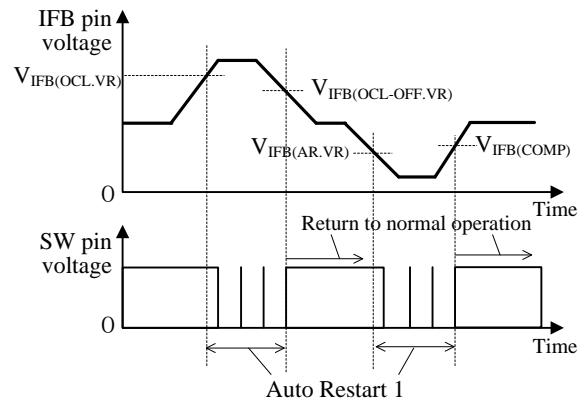
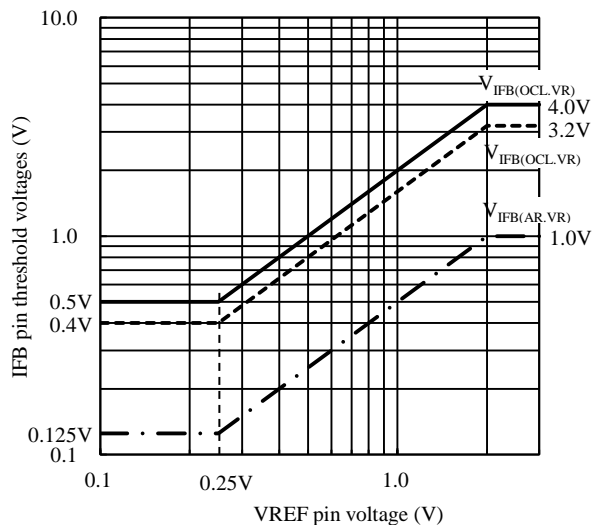
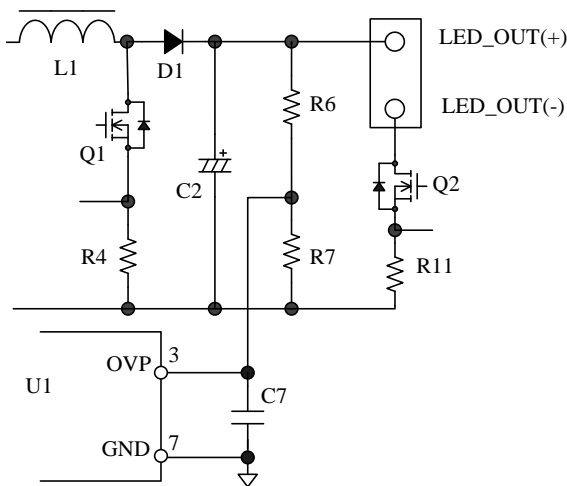

Figure 8-14 IFB pin threshold voltage and Auto Restart 1 operation
Figure 8-15 VREF pin voltage versus IFB pin threshold voltages
Figure 8-19 OVP pin peripheral circuit
- Operation by the detection signal of IFB pin: As shown in Figure 8-14, IFB pin has two types of threshold voltage. These threshold voltages depend on the VREF pin voltage, as shown in Figure 8-15.
When the FB pin voltage increase to  $V_{IFB(OCL.VR)}$  in Figure 8-15, or more, the operation of the IC switches to Auto Restart 1. When the fault condition is removed and the IFB pin voltage decreases to  $V_{IFB(OCL-OFF.VR)}$  in Figure 8-15, or less, the IC returns to normal operation automatically.
When the FB pin voltage decrease to  $V_{IFB(AR.VR)}$  in Figure 8-15, or more, the operation of the IC switches to Auto Restart 1. When the fault condition is removed and the IFB pin voltage increases to above  $V_{IFB(COMP)}$ , the IC returns to normal operation automatically.
- (2) When IFB pin voltage becomes  $V_{IFB(OCL.VR)}$  or more (see Figure 8-15), the IC switches to Auto Restart 1.
- (3) The LED current increases further and when the IFB pin voltage increases to the IFB Pin Overcurrent Protection High Threshold Voltage,  $V_{IFB(OCH)} = 4.0\text{ V}$  or more, the IC switches to Auto Restart 2.
Figure 8-19 shows OVP pin peripheral circuit. The OVP pin detects the divided LED output voltage by R6 and R7. When the LED\_OUT (+) or the IFB pin is open and the OVP pin voltage increases to the OVP Pin Overvoltage Protection Threshold Voltage,  $V_{OVP} = 3.00\text{ V}$ , the IC immediately stops switching operation. When the OVP pin voltage decreases to the OVP Pin Overvoltage Protection Release Threshold Voltage,  $V_{OVP(OFF)} = 2.75\text{ V}$  or the IFB pin voltage decreases to  $V_{IFB(AR,VR)}$  in Figure 8-15, then the IC switches to Auto Restart 1.
When the LED\_OUT (-) and the GND are shorted, and the IFB pin voltage decreases to  $V_{IFB(AR,VR)}$  in Figure 8-15, then the IC switches to Auto Restart 1.
When the output current detection resistor, R11, is shorted, the IFB pin voltage decreases. When the IFB pin voltage decreases to  $V_{IFB(AR,VR)}$  in Figure 8-15, then the IC switches to Auto Restart 1.